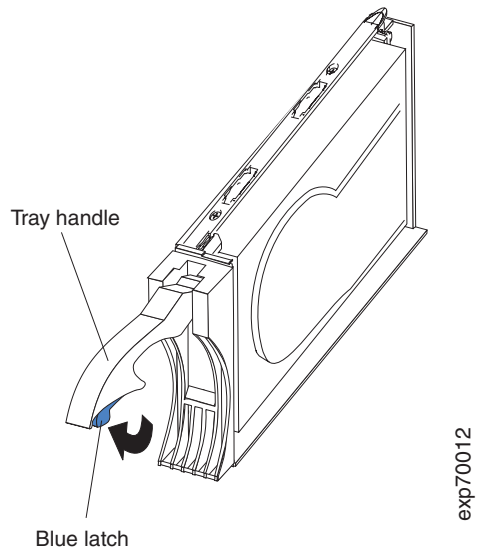

Figure 53. Drive CRU latch
- b. Pull the handle on the tray out so that it is in the open position, as shown in Figure 53.
- a. Press on the inside of the bottom of the tray handle to release the blue latch as shown in Figure 53 on page 69.